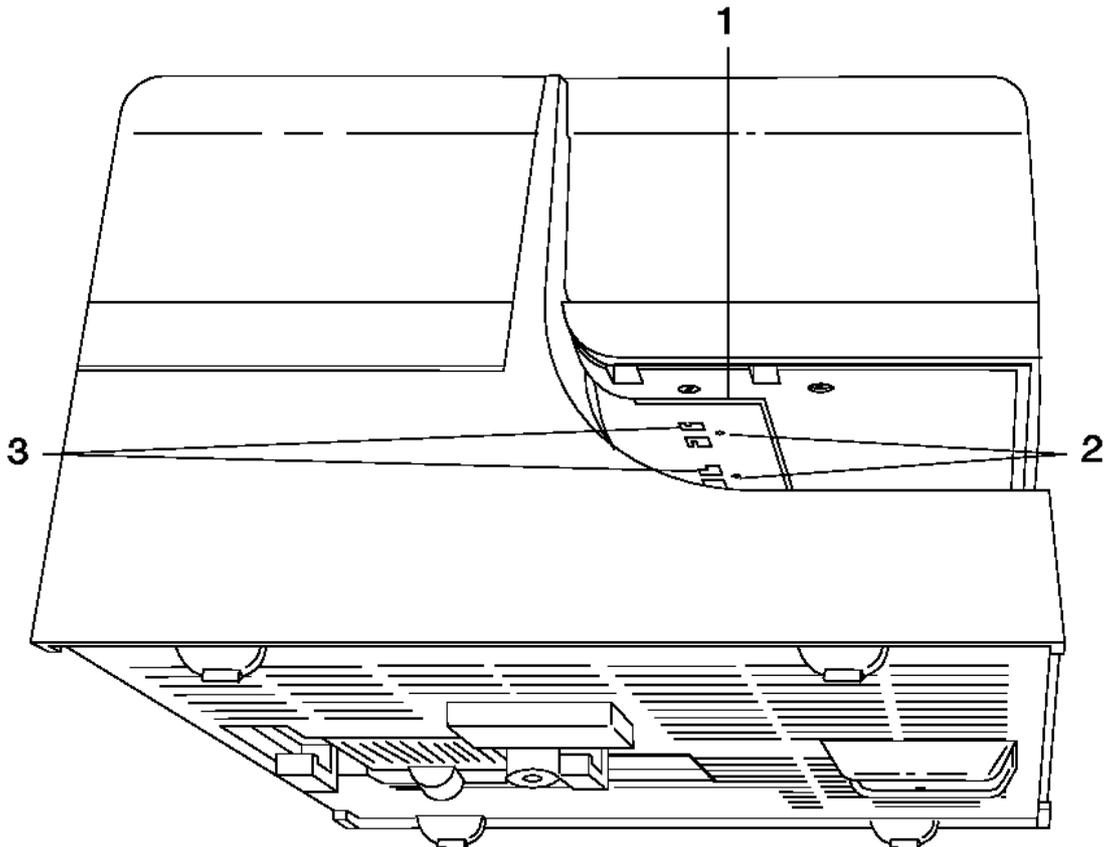

Figure E-1. Part 1. Removing the Document Insert Paper Guide
1. Set the printer as shown in Figure E-1
3. Gaining access through the document insert opening, remove the document insert paper guide (1).
4. Lift the guide off the locating pads (2).
5. Move the guide toward the back of the printer until the holding tabs on the guide can be pulled out of the openings (3) in the frame.